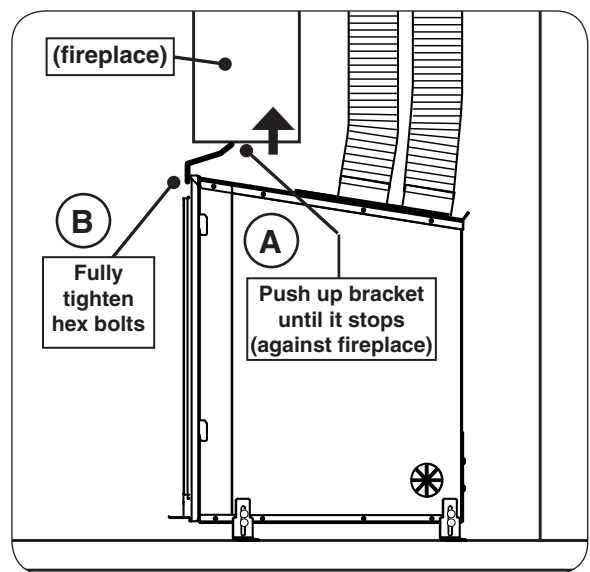

Fig. 34-2 Fasten retention bracket (if applicable)
1. Reach in and push up the loosely installed retention bracket until it stops (against fireplace), then use a $\frac{7}{16}$ " open-end wrench to fully tighten the two hex bolts (from below fascia). See Fig. 34-2.